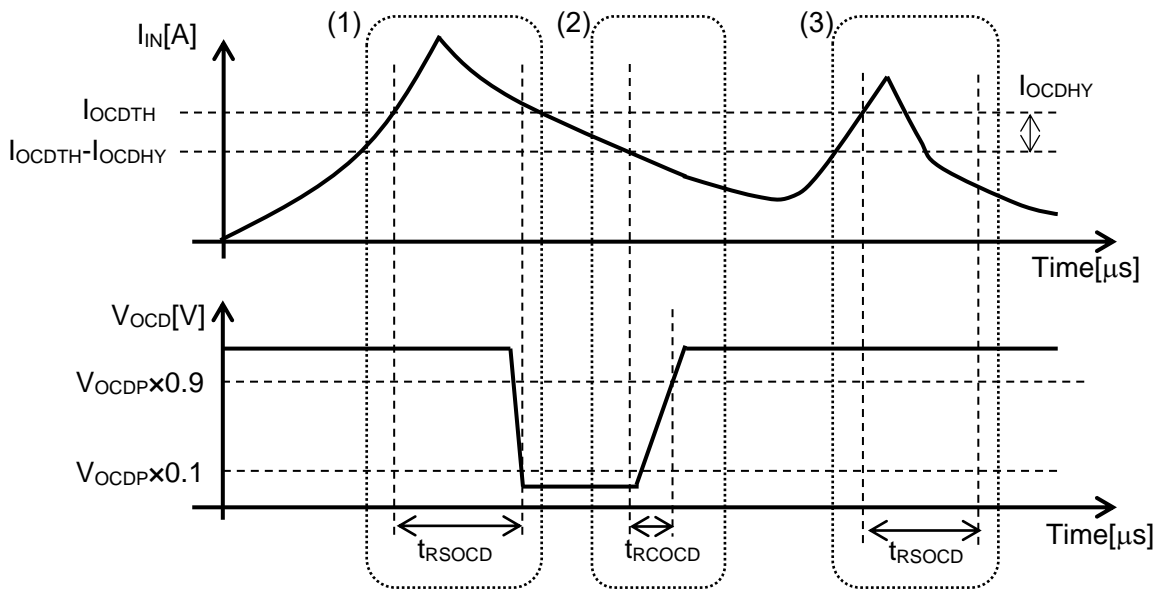

Figure 6. Overcurrent Detection Function of CZ-3AG2
**10.4. Overcurrent Detection Function is operated as below. (See figure 6.)**